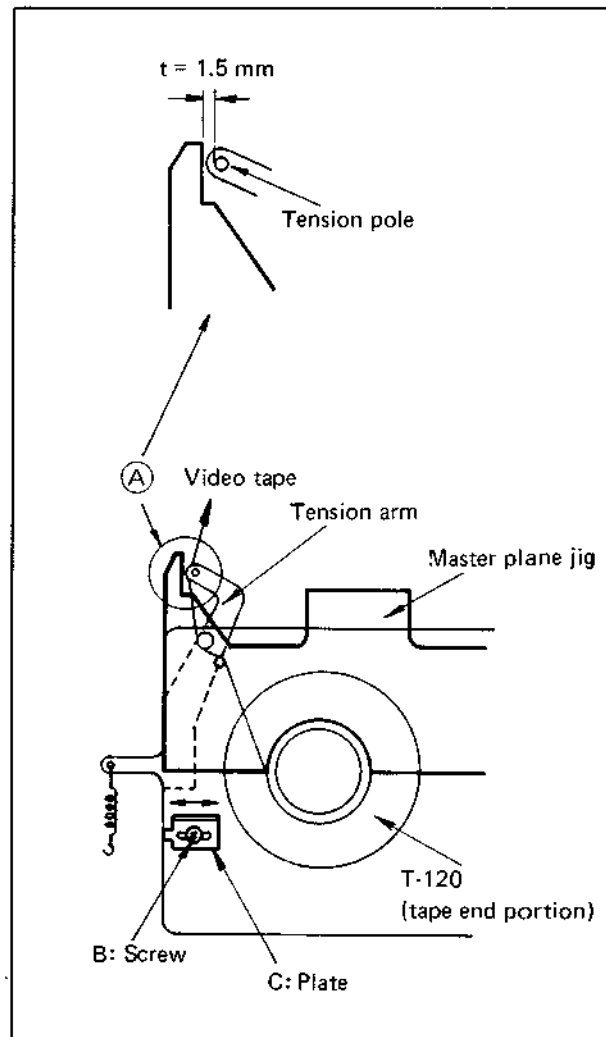

Fig. 4-13
3. At completion of loading and when tape running starts, check for 1.5 mm spacing between point (A) of the master plane jig and the tension pole as shown in Fig. 4-13.